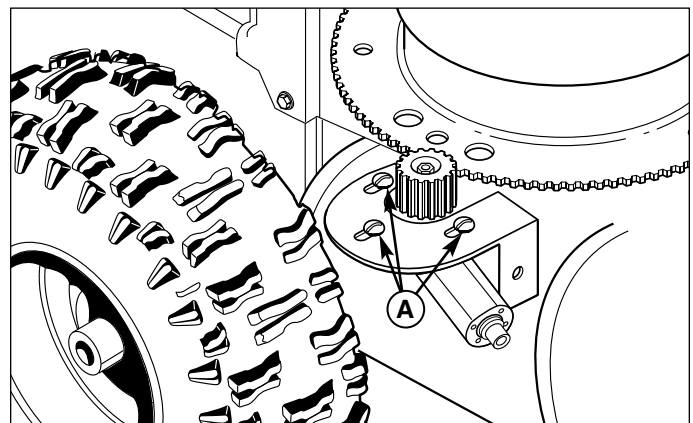

**Figure 22. Discharge Control**
2. To adjust, loosen nut (D, Figure 22) by holding the adjusting flats (A) and turning nut (D). Turn adjustment flats and hold screw. The adjustment screw is a phillips screw and the head can be held or turned by inserting a screwdriver through the spring.
3. Hold adjusting flats (A) and tighten nut (D).
If the discharge chute is difficult to operate, first lubricate the pinion gear (A, Figure 22) and ring gear (F). If it is still difficult to operate, adjust as follows:
*NOTE: If the discharge chute will not stay in position, adjust the pinion gear (A) closer to the ring gear (F).*
1. Loosen the nut (G, Figure 22) which holds the pinion gear bracket in the slotted hole.